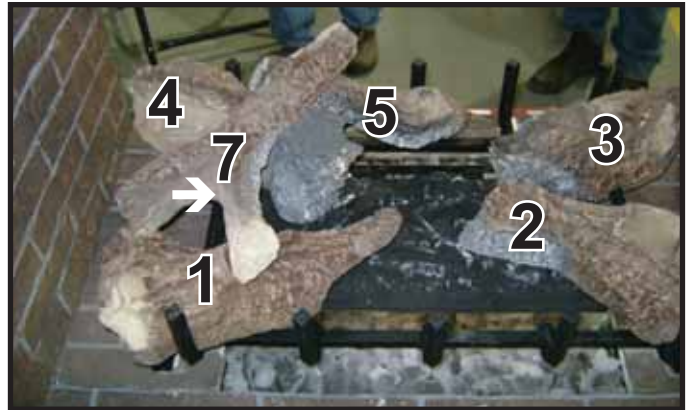

Figure 13.
**LOG NUMBER 7 (SRV2146-707):** Log #7 rests on the notch on top of log #1 and the notch on top of log #4. See Figure 13. The points of contact on Log #1 and Log #4 where Log #7 rests are indicated by the circles in Figure 10.